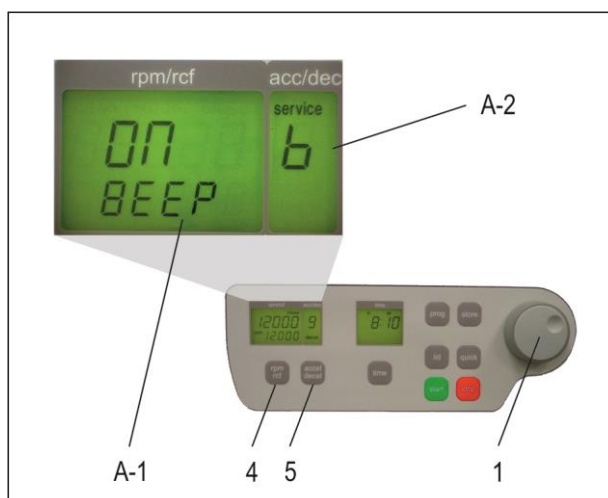

Figure 7
Proceed as illustrated, under point 1.8.1, to enter this program mode, press the key, "accel/decel" (5). In the display, "accel/decel" (A-2) flashes the word, "service". Select the letter, "b" with the adjustable knob (1). As a result, appearing in the display, "rpm/rcf" (A-1), the word "ON/BEEP". By pressing the key, "rpm/rcf" (4), the keyboard sound (On) or (Off) can be turned on, with the adjustable knob (1), (see Figure 7).